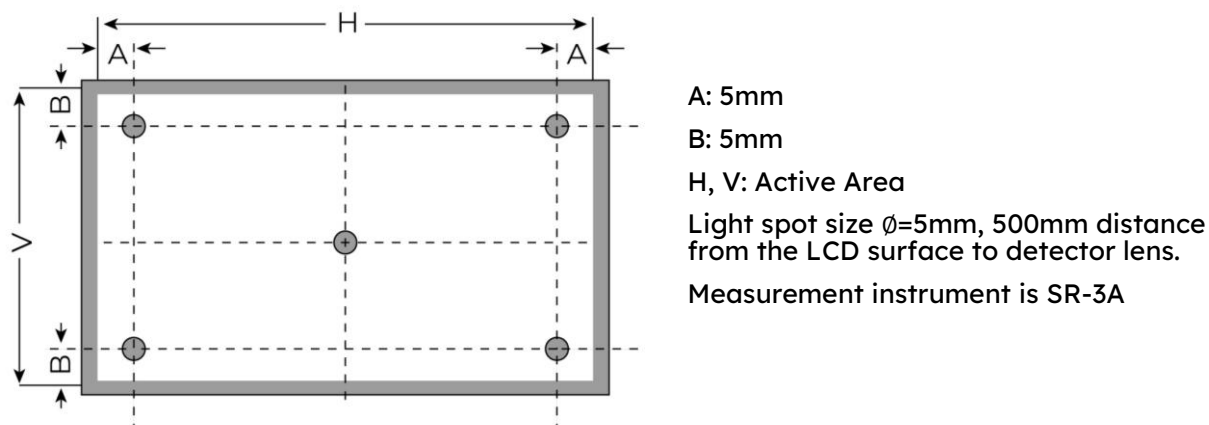

Figure 3. Measuring method for Contrast ratio, surface luminance, Luminance uniformity, CIE (x, y) chromaticity
**Note 6.** For TFT module, viewing angle is the angle at which the contrast ratio is greater 10. The angles are determined for the horizontal or x axis and the vertical or y axis with respect to the z axis which is normal to LCD surface. For more information see Figure 3.